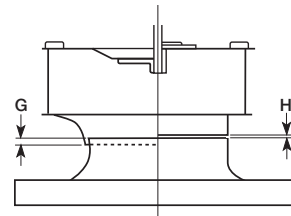

Figure 13 - Wheel Overlap and Gap Dimension
1. Check all fasteners and set screws for tightness. The wheel should rotate freely and be aligned as shown in *Figure 13*.